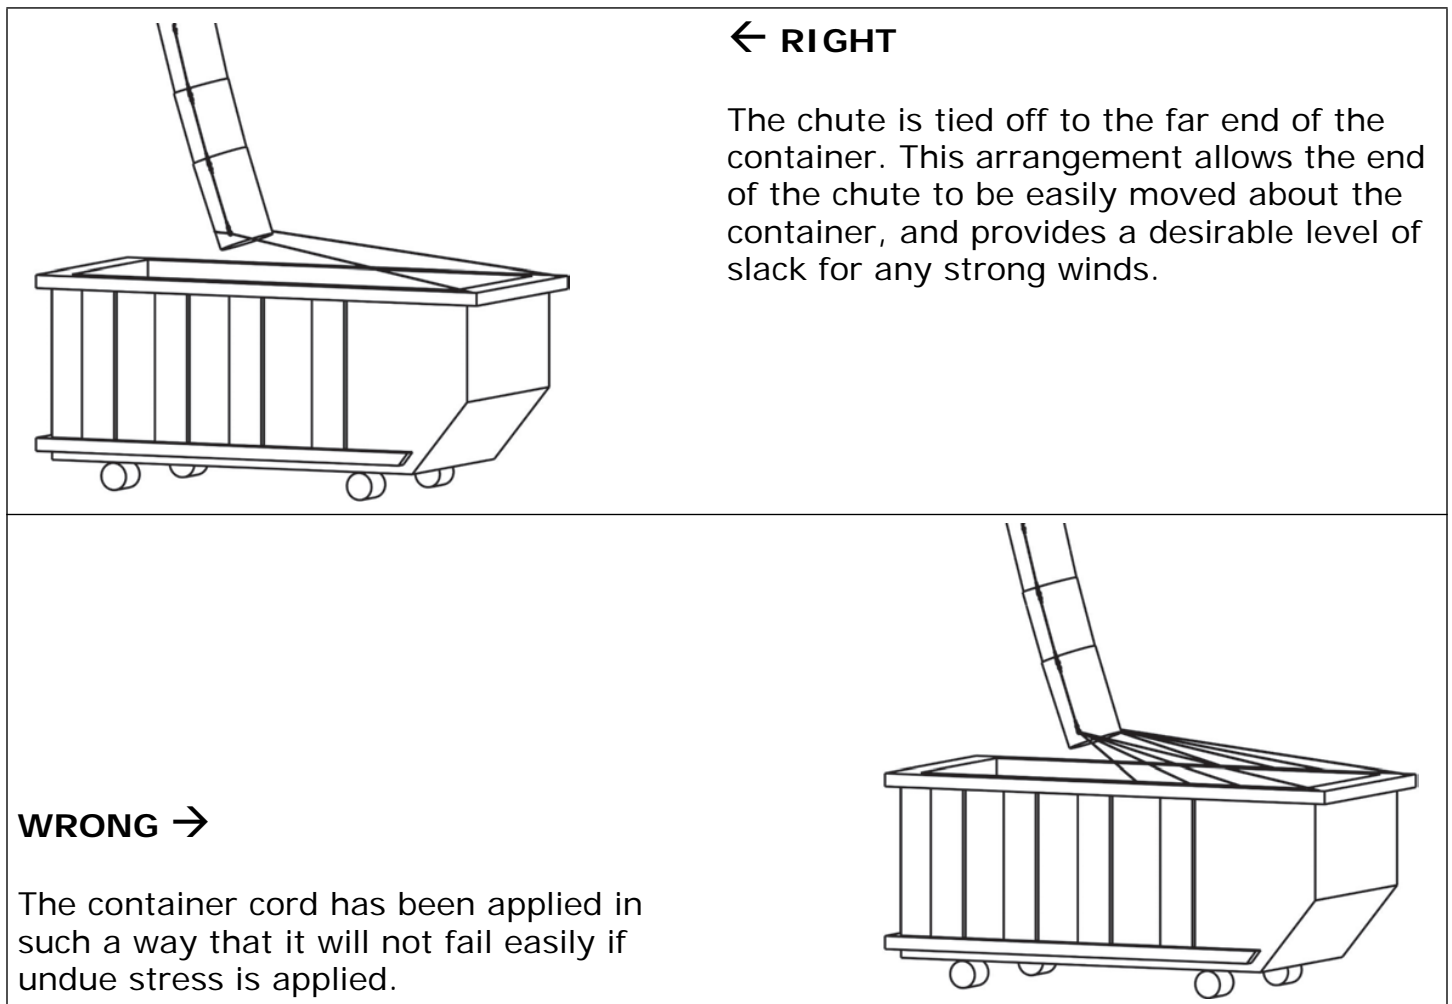

Fig. 69 Right and wrong application of container cord.
- Do not double up the container cord or use more than one or two lengths to attach the chute to the container. The effect would be to increase the strength of the attachment, which would make it less likely to fail if it should need to do so. See Fig. 69.